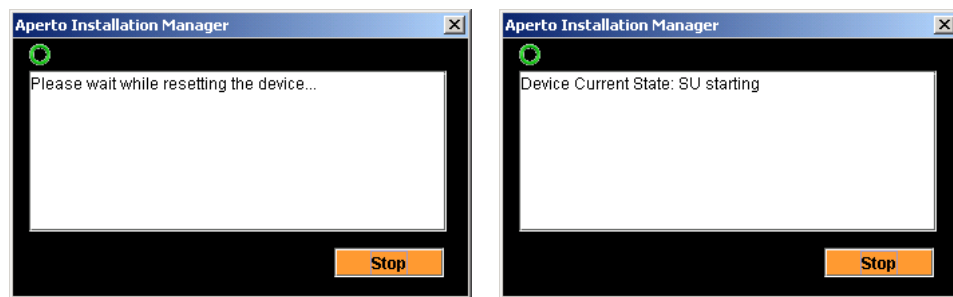

Figure 5-9 Restart Status Windows
16. After you click Next>> in the Configuration Window (and specify a new password is necessary), the AIM will send the configuration choices to the PacketWave 200, then reset the device. The status windows shown in Figure 5-9 will be displayed, the one on the left first followed by the one on the right.